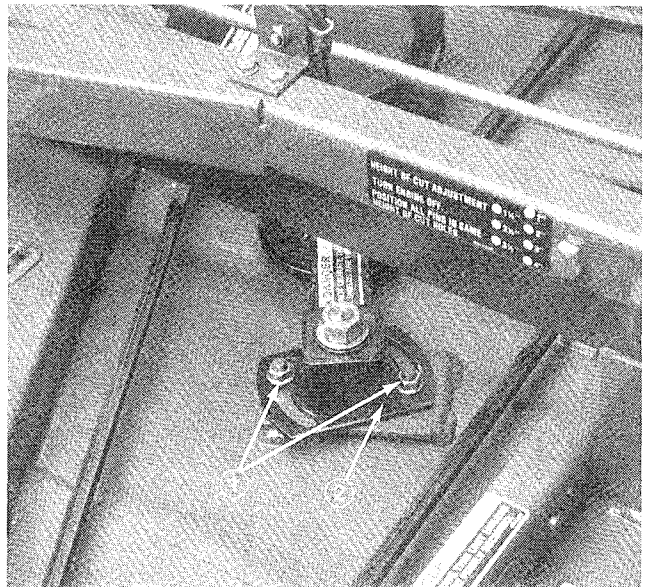

Figure 22
3. Loosen two nuts securing idler plate in place (Fig. 22) and remove old belt from pulleys.